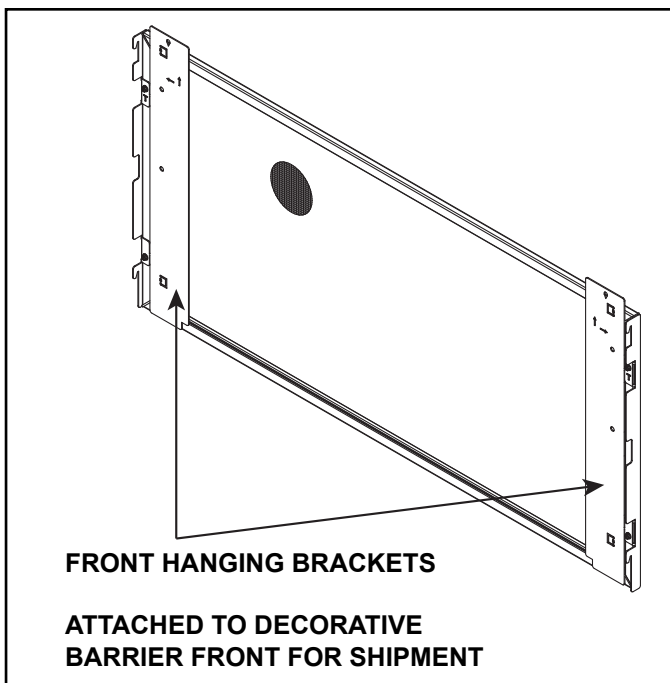
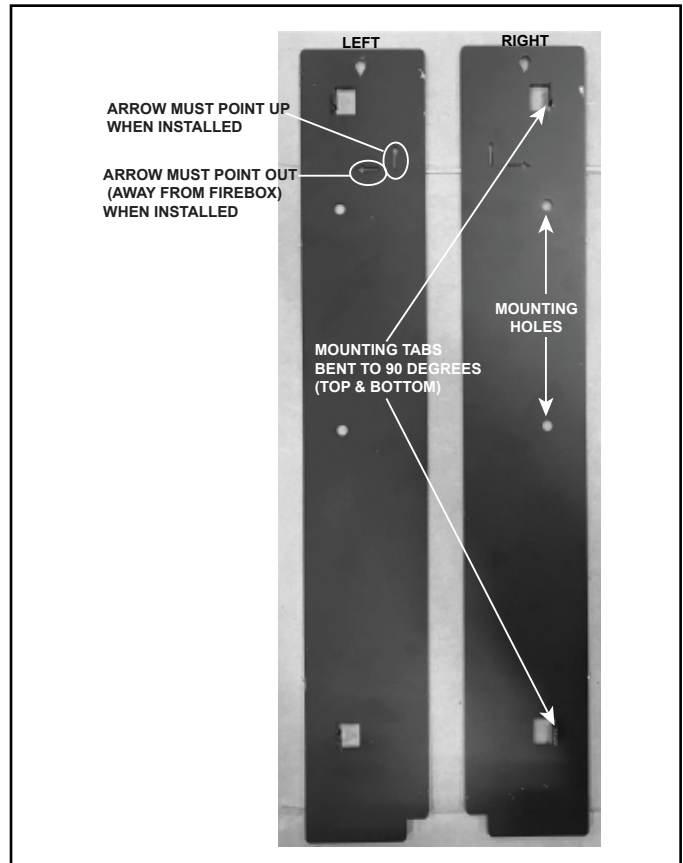

Figure 11.3 Decorative Barrier Front Assembly Shown as Shipped
Figure 11.4 Preparation of Mounting Brackets
3. Bend the front hanging brackets to separate from the assembly. See Figure 11.3 and Figure 11.4.
4. Locate the mounting tabs on the two hanging brackets. The mounting tabs are shipped unbent. Use a pliers to bend the tabs to 90 degrees as shown in Figure 11.4.